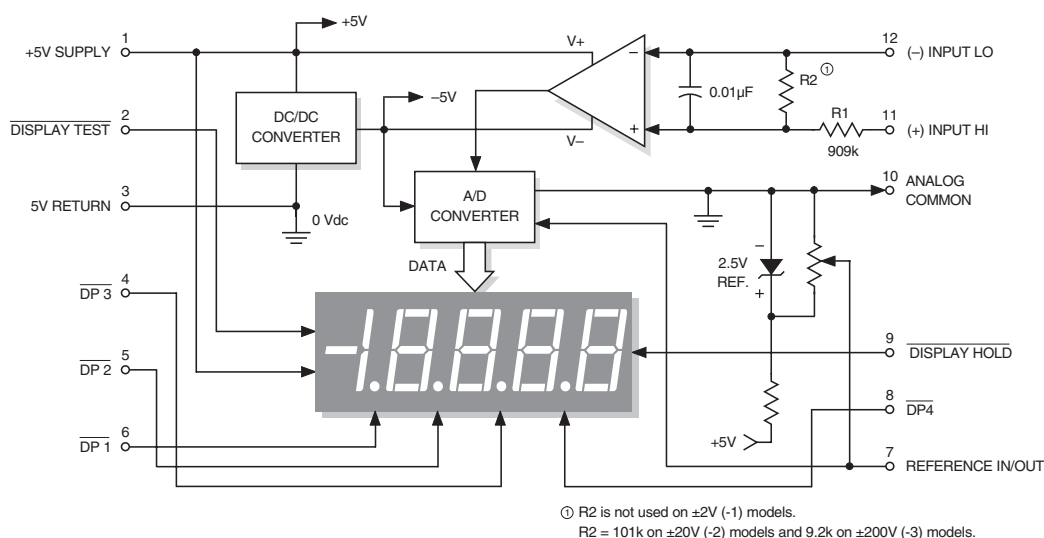

Figure 1. DMS-40PC Series Simplified Schematic
① Applies for transient or continuous overvoltages applied to (+) INPUT HI (pin 11) with (-) INPUT LO (pin 12) properly connected. Pin 12 is not overvoltage protected (see Figure 1). Voltages applied to pin 12 should not exceed the supply voltage.
② See Technical Notes.
③ BCD outputs are optional and must be specified in the part number. See Ordering Information.
④ Includes high-intensity and BCD-output models.